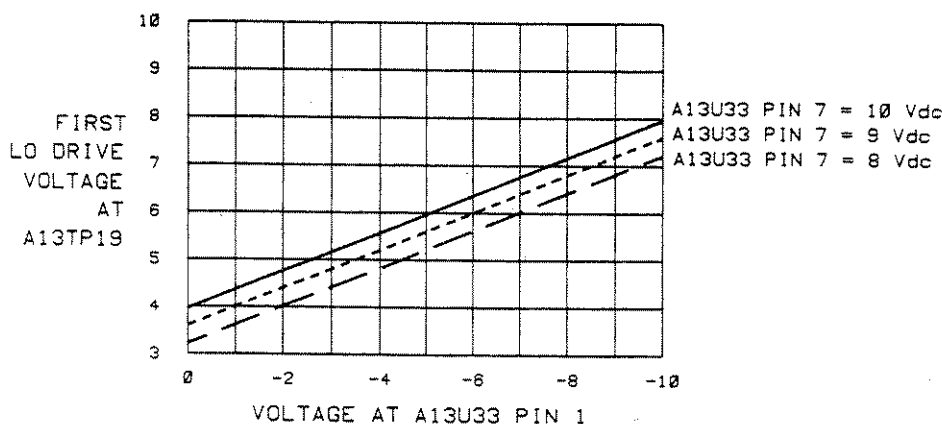

Figure 8-44. First LO Drive Voltages
3. Tune the Noise Figure Meter to 10, 1000 and 1600 MHz. Verify that the voltage at A13TP19 (1st LO Drive) varies with the magnitude of the voltage at A13U33 Pin 1 as shown in Figure 8-44.